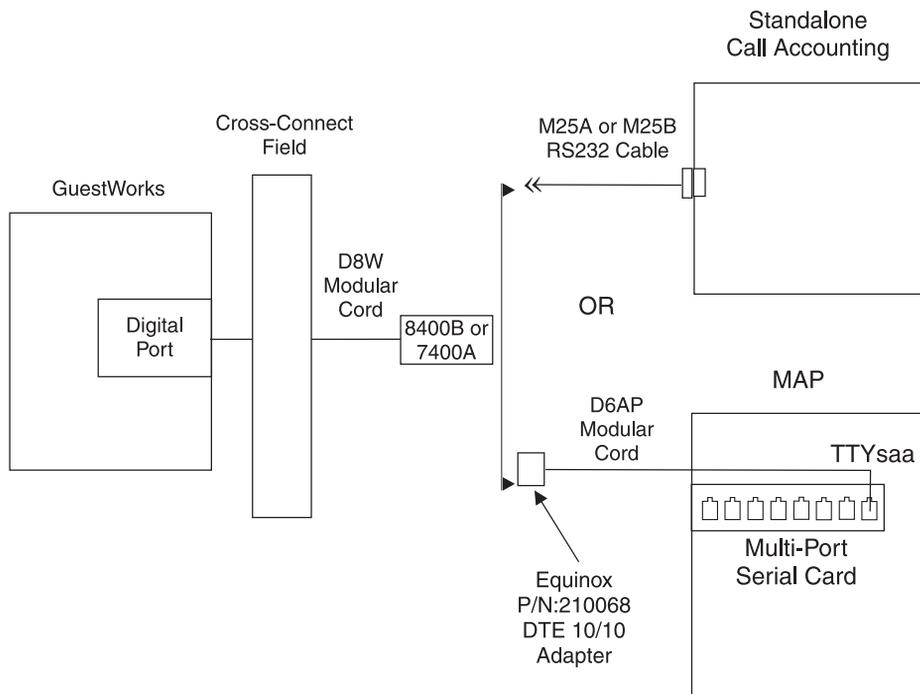

Figure 11. Switch-to-Call Accounting Link using DCP Data Modules
Figure 11 shows the connection between the switch and the call accounting system (INTUITY Lodging Call Accounting or standalone call accounting) when using a DCP data module. Use these connections for *r* systems.
5. Reconnect the unit as shown in Figure 11.